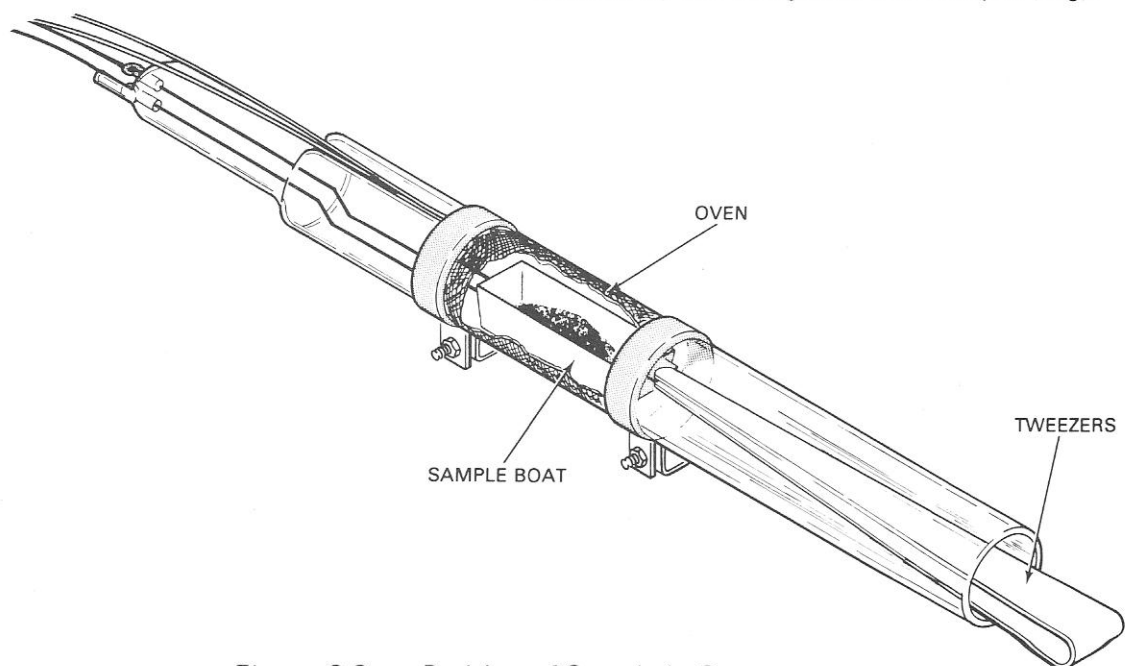

Figure 3-2. Position of Sample in Oven.
(1) Remove the oven cap and use tweezers to place the empty sample boat in the oven (figure 3-2). Install the oven cap immediately.
(2) Adjust the TEMPERATURE control as required for sample analysis.
(3) Press the RESET switch to reset the μg WATER indicator to 0.
(4) Adjust the TIME control as required for sample analysis.
(5) Wait until the timing sequence is complete (COMPLETE lamp lights) and record the numbers from the μg WATER indicator (blank count).
(2) Remove the oven cap and place the sample boat in the oven with the tweezers (figure 3-2).
(3) Install oven cap immediately.